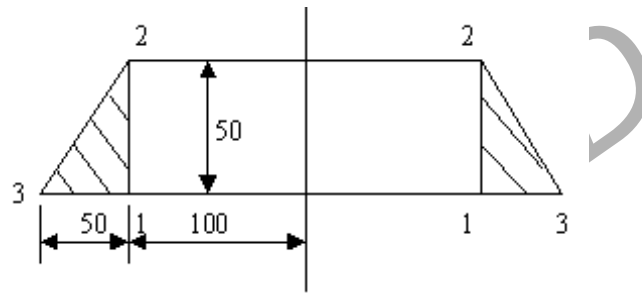

Figure 6
8. An axisymmetric ring element is shown in figure 6. Derive the matrices, [B] and [D]. Take $E = 2 \times 10^5 \text{ N/mm}^2$ and $\mu = 0.33$. [16]